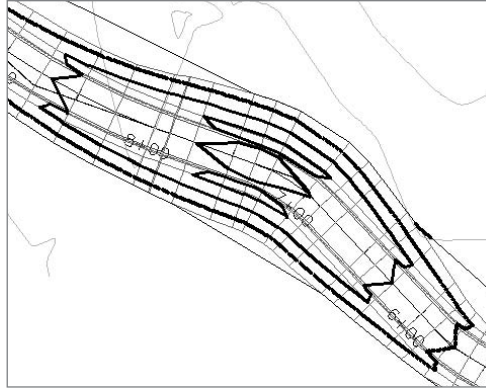

Figure 10.12
8. Zoom in on your corridor to see the contours from the corridor surface, as shown in Figure 10.12.